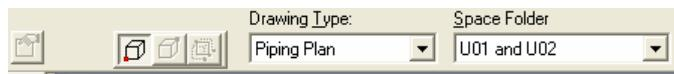

Figure 30: Place Drawing Volume by Two Points Ribbon
2. The **Place Drawing Volume by Two Points** ribbon appears. The software detects the ribbon settings automatically, as shown in Figure 30. You need not change the ribbon settings.